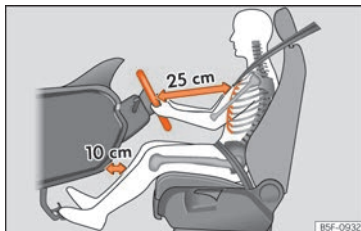

Fig. 3 The correct distance between the driver and the steering wheel must be at least 25 cm (10 inches).
- Move the steering wheel so it is at least 25 cm (10 inches) away from the steering wheel »» Fig. 3 and you can hold it with both hands on both sides, on the outer part, with your arms slightly bent.
- Move the seat in such a way that you can step on the pedals with your knees slightly bent and with a distance between the knees and the dashboard of at least 10 cm (4 inches) »» Fig. 3.